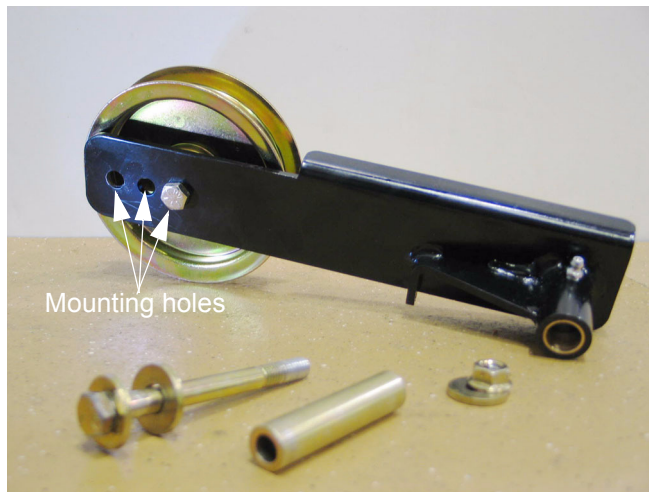

Figure 6.10
- 6.10. There are three mounting holes for the pulley on the idler arm, use the one nearest the pivot point as indicated by the “48” mark on the label. See Figure 6.10.